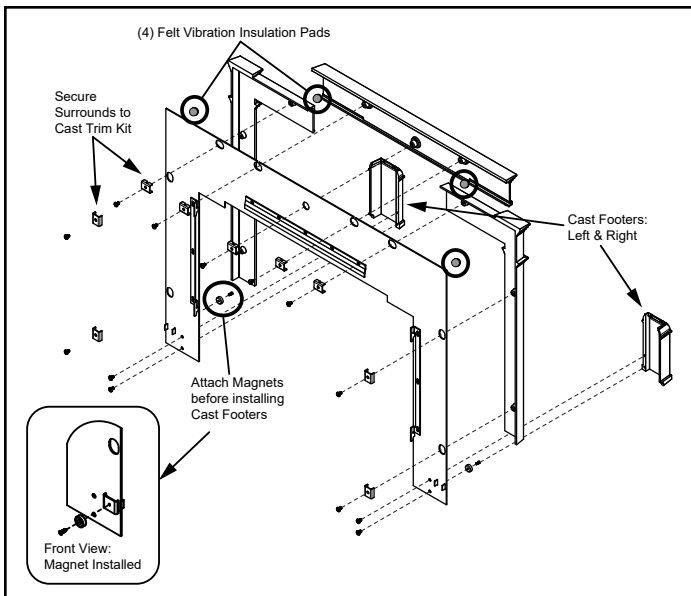

Figure 5.16
- 3. Place the peel and stick round felt vibration insulation pads on the front side in each corner of the top metal piece and on the back side in each corner of the top cast piece (**Figure 5.16**).